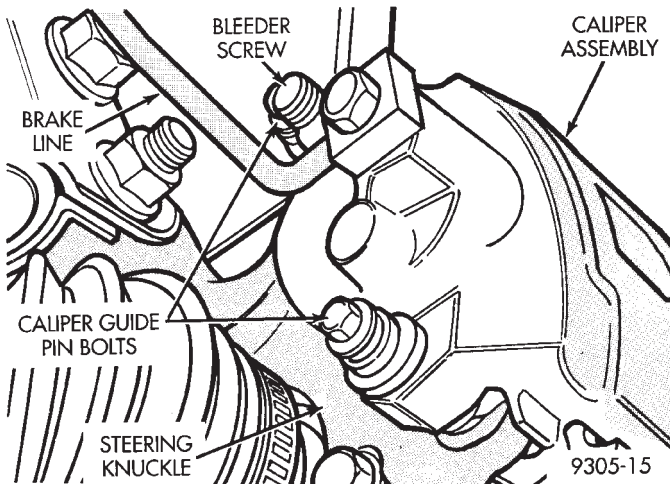

Fig. 2 Disc Brake Caliper Mounting
(1) Raise vehicle on jackstands or centered on a frame contact type hoist. Refer to Hoisting, in the Lubrication and Maintenance section of this manual, for the required lifting procedure to be used for this vehicle.
(2) Remove the front wheel and tire assembly from the vehicle.
(3) Remove the front caliper assembly from the front steering knuckle assembly (Fig. 2). Refer to Front Disc Brake Service in the Brake Section of this service manual for caliper removal procedure.